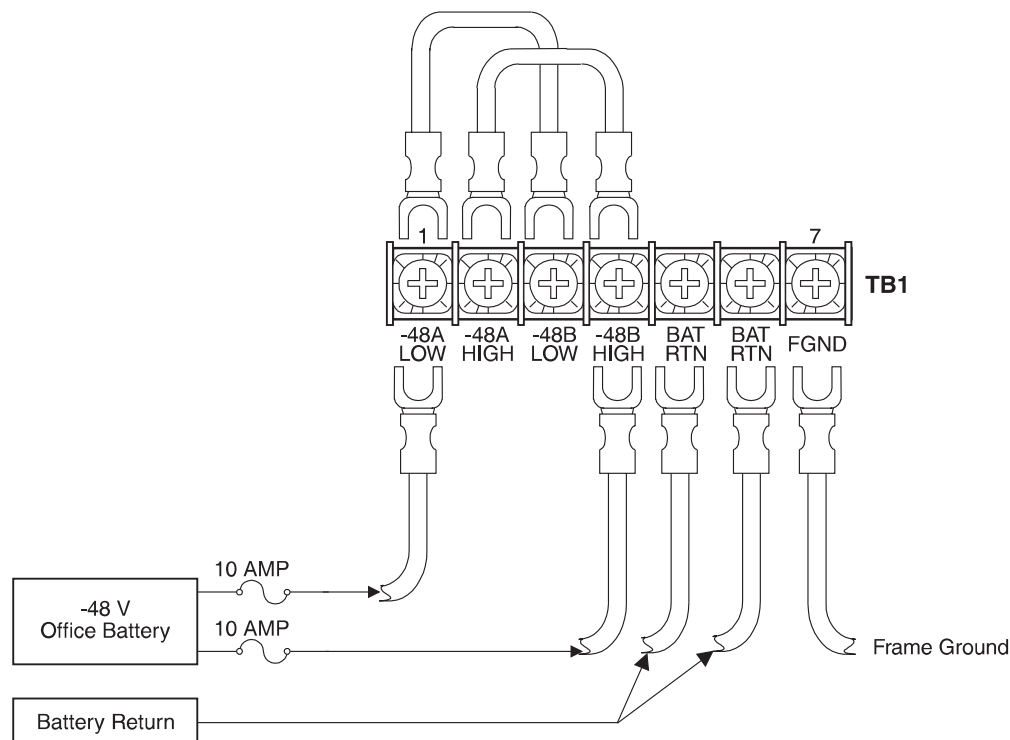

Figure 7 Split-Shelf Wiring
- 3 Connect a wire to the -48A-LOW terminal of TB1 (see Figure 7). Connect the opposite end of this wire to the A CO battery supply at the fuse panel.
- 7 Use a short jumper wire to connect the -48 A-LOW and -48 B-LOW terminals of TB1. Make this connection at the top of the terminal block as shown in Figure 7.
- 8 Connect a wire from the -48A-HIGH to the -48B-HIGH terminals of TB1. Make this connection at the top of the terminal block as shown in Figure 7.